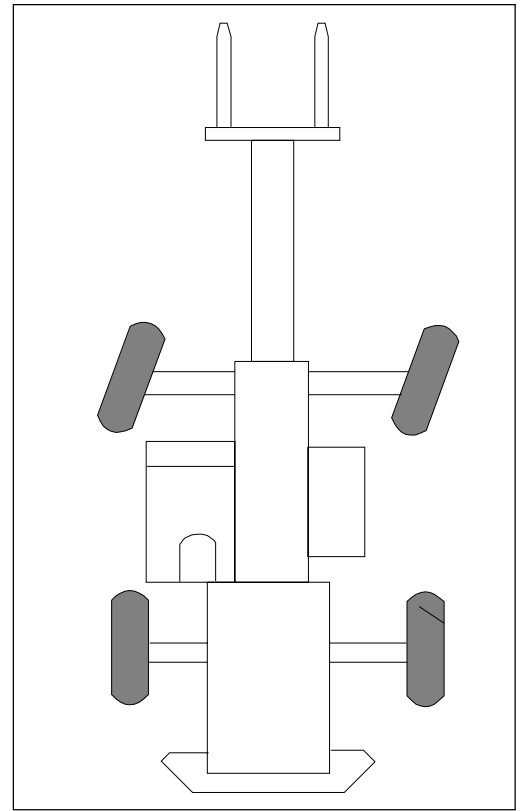

Figure 13. Two-Wheel Steering Mode.
- b. **TWO-WHEEL STEER.** (Shown in Figure 13 on the following page.) In this position only the front wheels will steer. Before selecting this mode, the rear wheels must be turned straight using the 4 WHEEL STEER mode. Use ONLY 2 WHEEL STEER mode when travel speeds exceed 10 MPH.